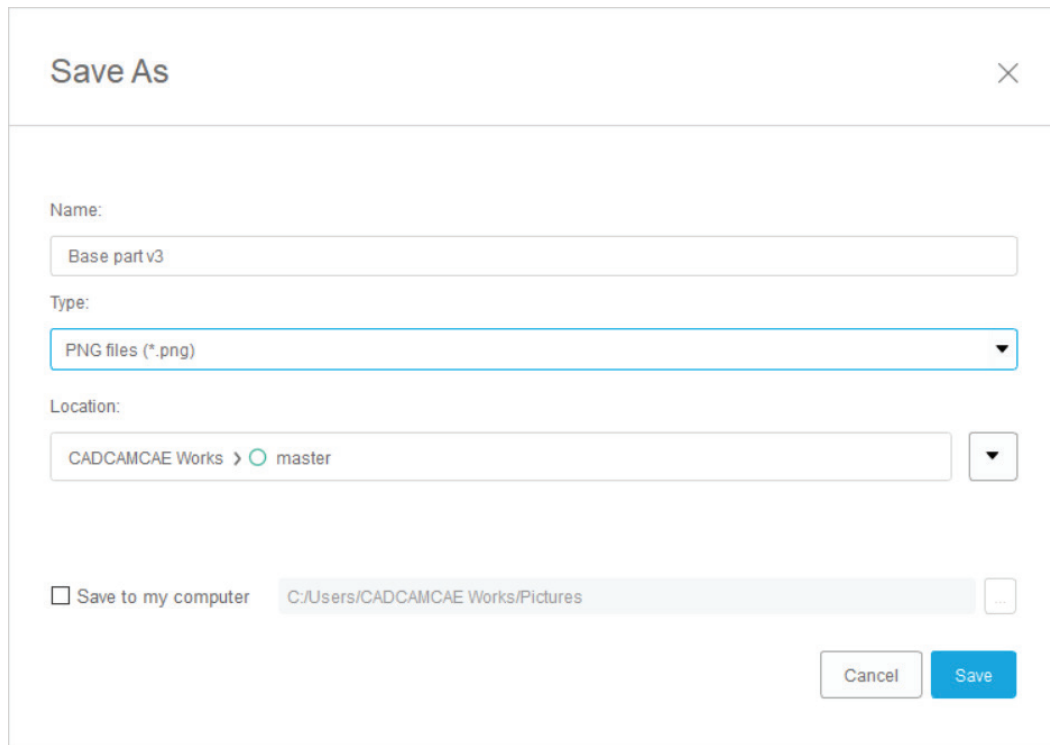

Figure-60. Save As dialog box for image capturing
- After setting desired parameters, click on the **OK** button of **Image Options** dialog box. The **Save As** dialog box will be displayed; refer to Figure-60.